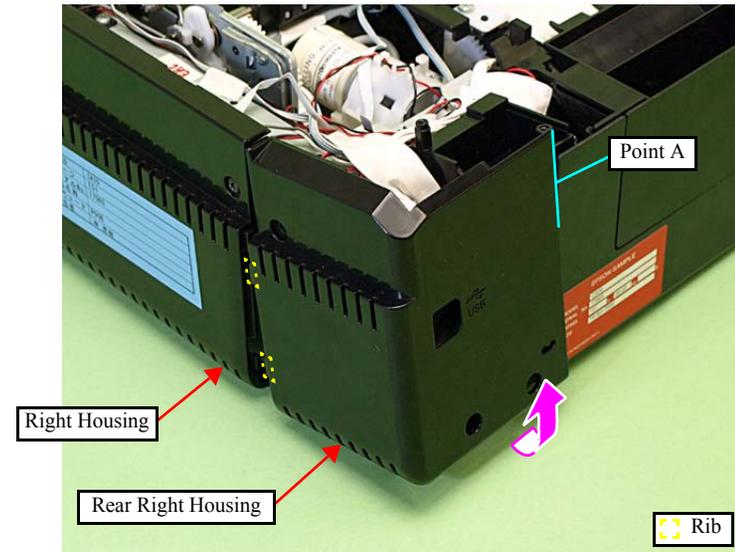

Figure 4-221. Removing the Rear Right Housing (2)
2. Release the ribs (x2) on the right side, and also release the point A, then remove the Rear Right Housing by lifting it in the direction of the arrow. (See Fig. 4-221.)
- When installing the Rear Right Housing, insert the ribs (x2) of the Rear Right Housing to inside of the Right Housing. (See Fig. 4-221.)
- When installing the Rear Right Housing, align the point A of the Rear Right Housing with the inside of the Base Frame. (See Fig. 4-221.)